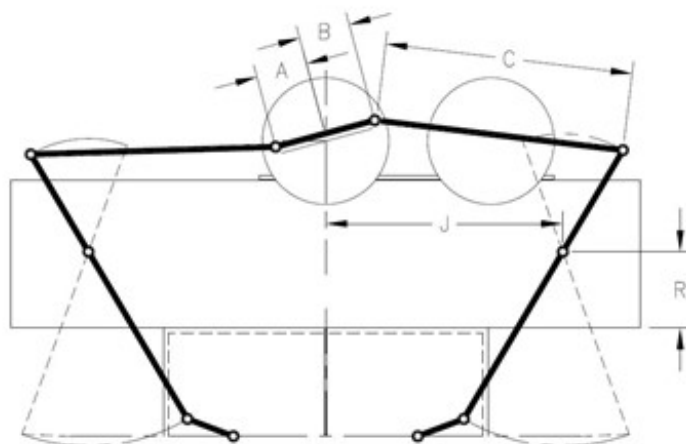

Figure 20: CP Operator Setup
8. Use the Operator Data Tables available at www.gal.com/products/door-equipment/operators/ for a starting point of the A, B, C, J, and R dimensions, as shown in **Figure 20**.
9. With the car doors closed at centerline, adjust the R and J dimensions shown in **Figure 20** so the clutch and door bracket links are at $\sim 20^\circ$ above horizontal.